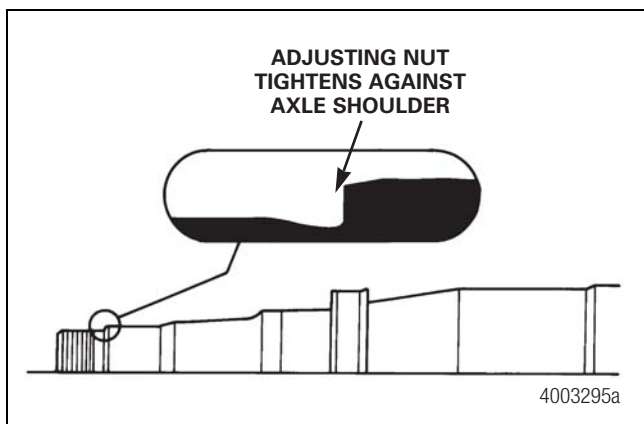

Figure 11.1
1. Positive bearing adjustment is available as an option on most trailer axles. With this method, wheel bearing end play of 0.005-0.007-inch (0.127-0.178 mm) is automatically obtained by tightening the adjusting nut against a shoulder machined into the axle spindle. Figure 11.1.